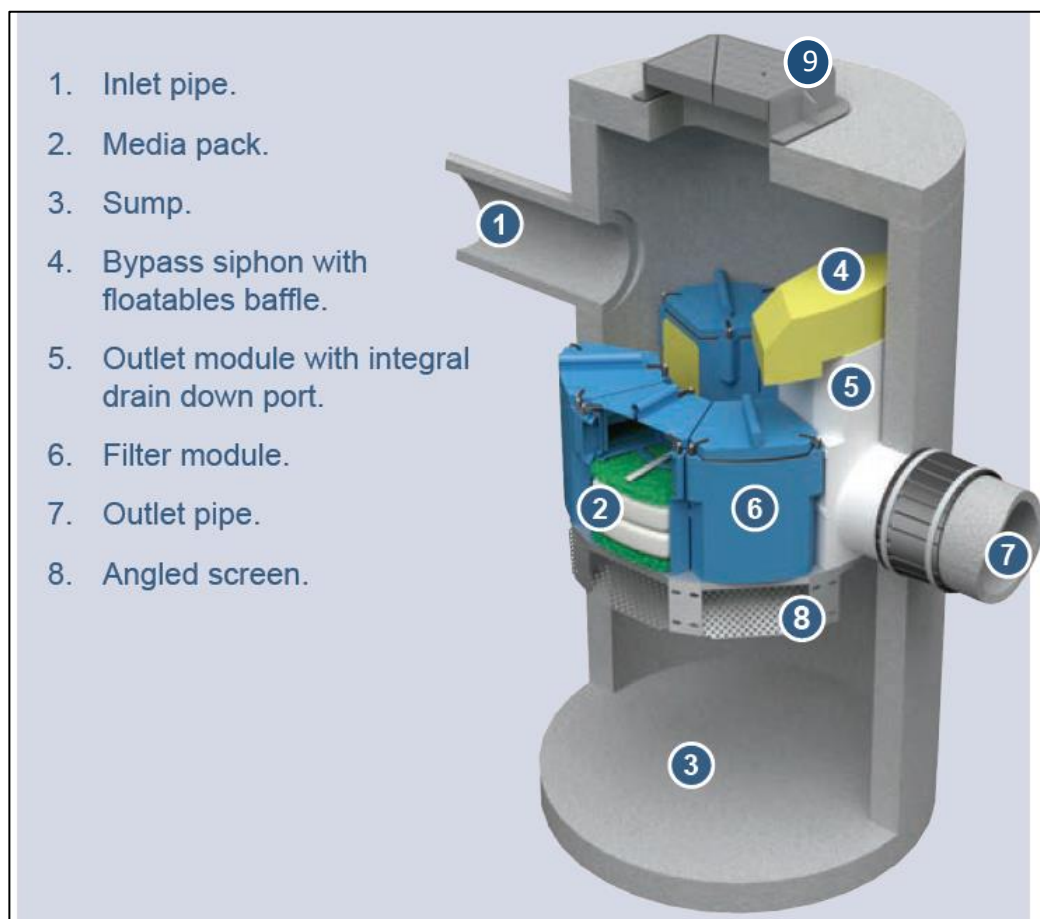

Figure 1 - Hydro Up-Flo® Component Diagram
Figure 1 illustrates the main components of an Up-Flo® manhole configuration. Operation of the Up-Flo® Filter is initiated during a rainfall event when stormwater is conveyed into the treatment chamber from a pipe (1) or grated inlet (9). As stormwater flow enters the chamber, internal components act as baffles to force gross debris and sediment to settle into the sump (3) and floating debris to rise to the surface. As flow continues into the chamber, a water column builds above the modules (6). This water column provides the potential energy to drive flow upward through the angled 4.0mm screens (8) and through the engineered media (2). All flows under the listed maximum treatment capacity must first pass through the screens (8) ensuring removal and retention of all particles 5.0mm in size or larger. Once flows pass the screens (8) they enter the media treatment area (2) of the module. The module is typically populated with media packs (2) that consist of granular media. The composition of the media can be a standard blend of CPZ (Carbon, Peat, and Zeolite) or a customized blend to treat site-specific pollutants of concern. If the only targeted pollutant is trash, the media area of the module remains populated with a flow